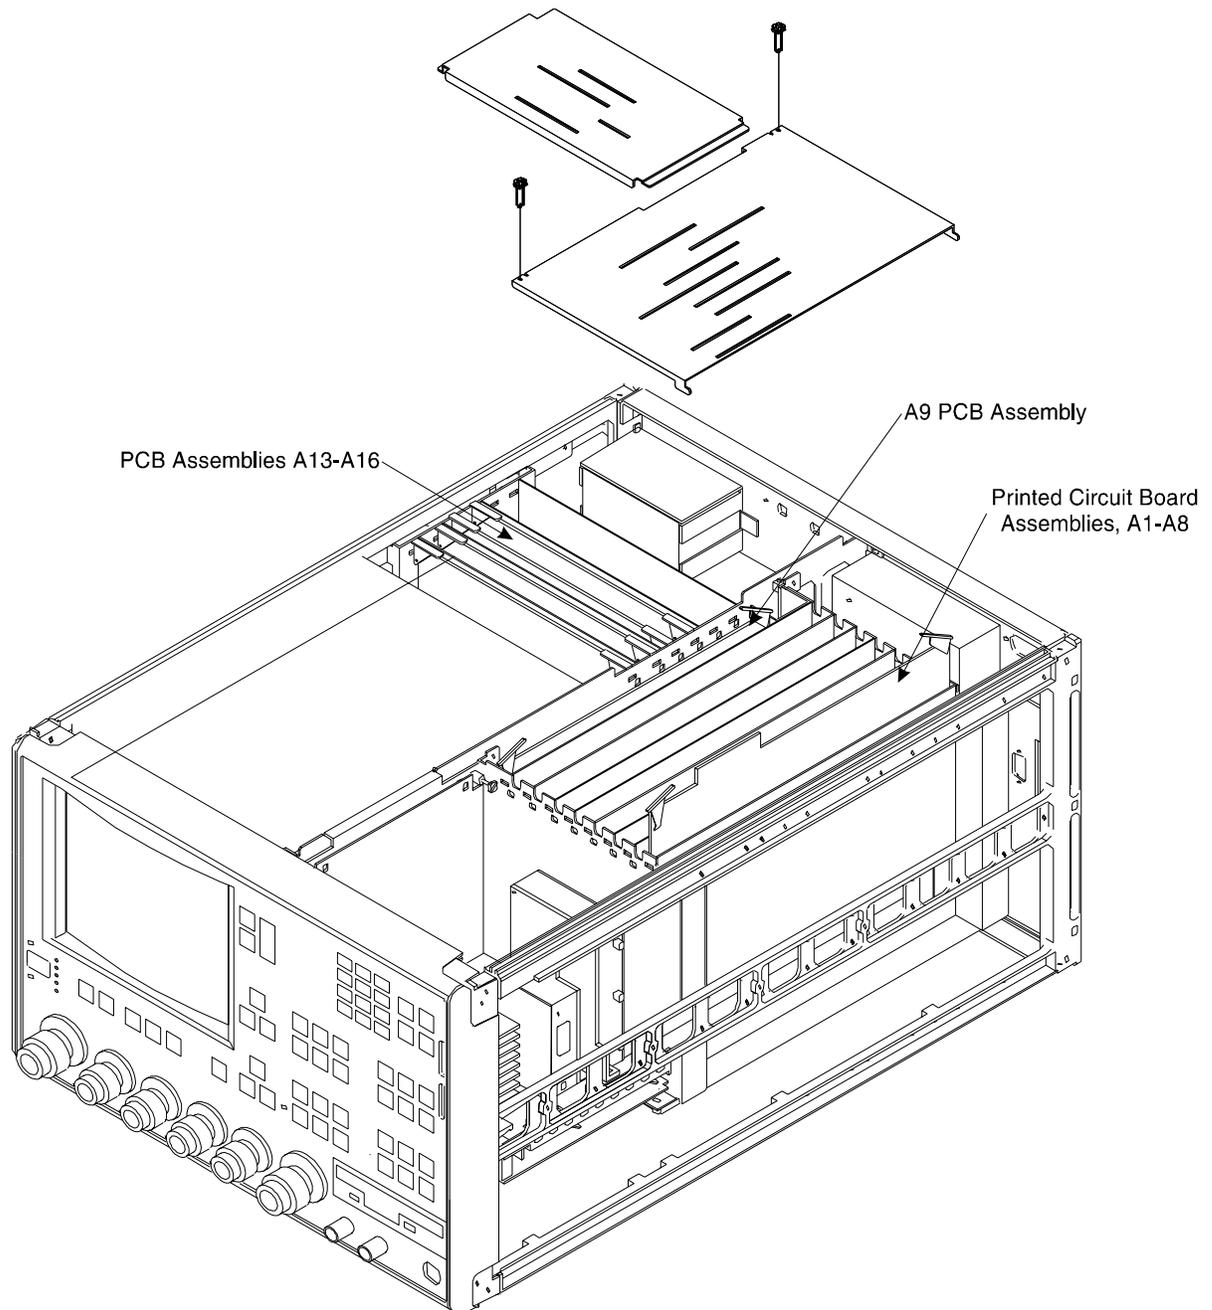

Figure 8-2. *A1-A9 and A13-A16 PCB Assemblies Removal Diagram*
- Step 2.*** Remove the two screws that secure the large card-cage cover (Figure 8-2).